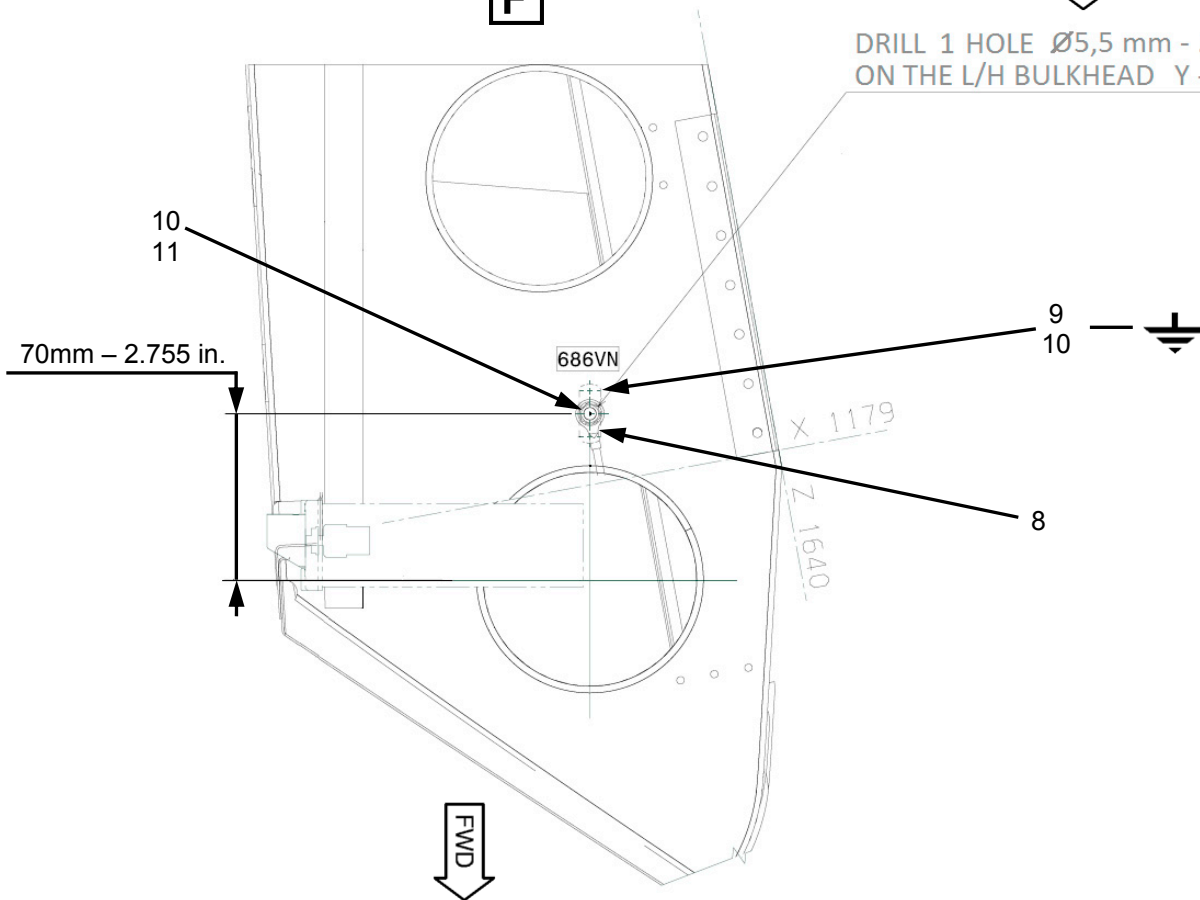

Figure 4: Ground 686VN
- . using rivets (22), install relay support (27).
- Install module individual supports (25) and (26).
- Install relay base (2).
- Using screws (24), washers (21) and nuts (23), install diode module (4).
3.B.2.b. Installation of ground point "686VN" (Figure 4)
- Install ground point "686VN" (Figure 4)
- . Obey dimensions of Detail F, Figure 4:
- .. Install self-locking nut (9) using blind rivets (10).
(Figure 1)(Figure 2)(Figure 3)(Figure 4)(Figure 5)(Figure 6)(Figure 7)(Figure 8)(Figure 9)(Figure 10)(Figure 11)(Figure 12)(Figure 13)(Figure 14)(Figure 15)(Figure 16)(Figure 17)(Figure 18)(Figure 19)(Figure 20)